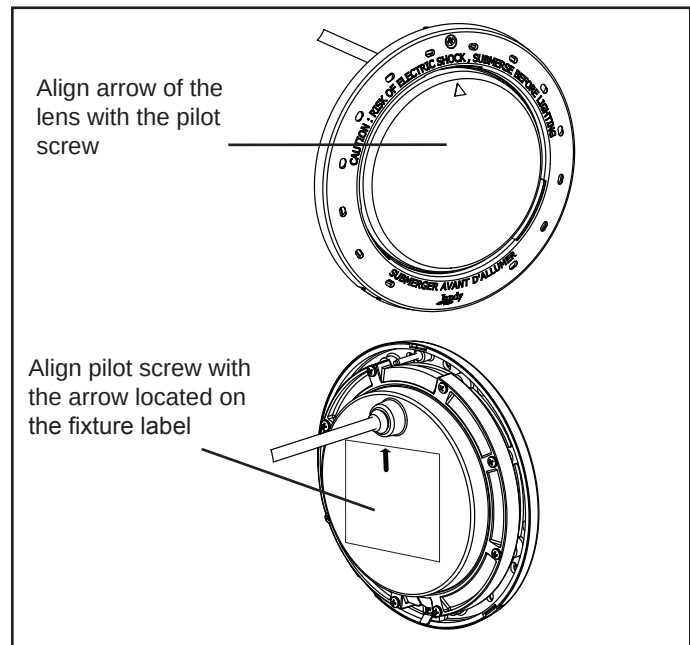

Figure 9. Alignment of the Lens, Face Ring, Housing and Clamps for White LED Lights
3. Position the lens and gasket on the fixture. Place the face ring assembly over the lens and align the pilot screw with the small arrow mark on the face of the lens. Note that the small arrow mark on the face of the lens and the pilot screw of the face ring must be aligned with the arrow located on fixture label that reads, "Arrow on this label must line up with the pilot screw on the Face Ring". See Figure 9.
6. Tighten the Phillips head screws (eight (8) for large light and six (6) for small light) on the light in alternating cross-pattern. Torque screws to approximately 25 in-lbs.